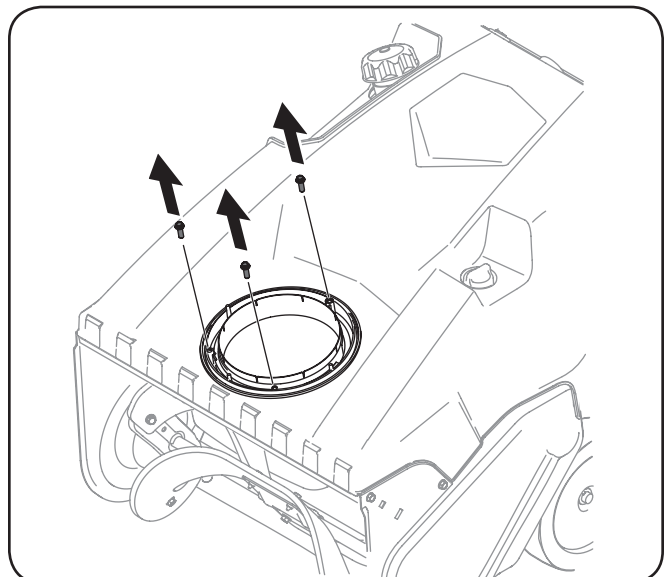

Figure 3-3
1. Remove the hex washer screws in the chute base. See Fig. 3-3.